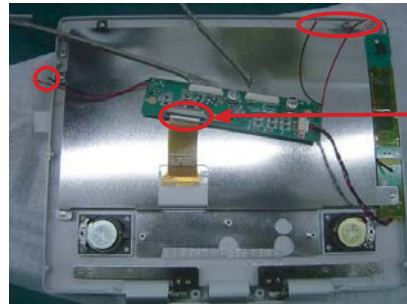

Fig.10
7. Remove IF board as Fig.10
Disconnect IF board as Fig.10